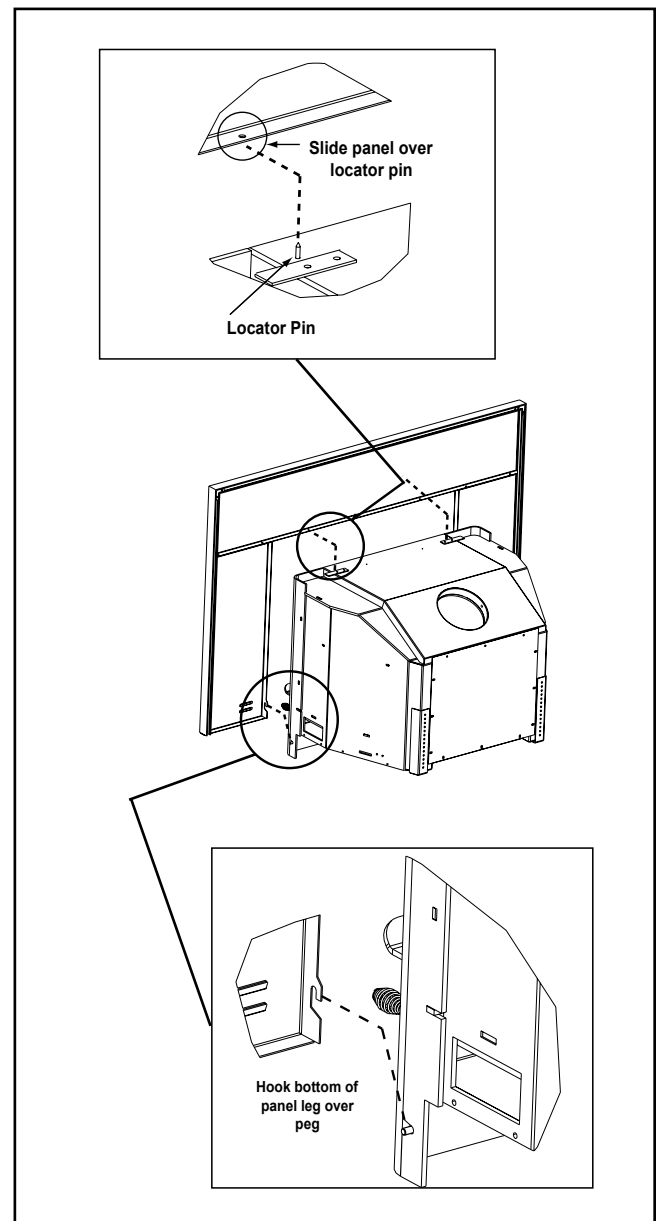

Figure 13.3
2. There are 2 locator pins on the top of the insert to match up with alignment holes on the back flange of the panel set. **Figure 13.3**
3. On the bottom of each side of the insert face is a peg. The bottom of the panel leg will hook onto this peg. **Figure 13.3**